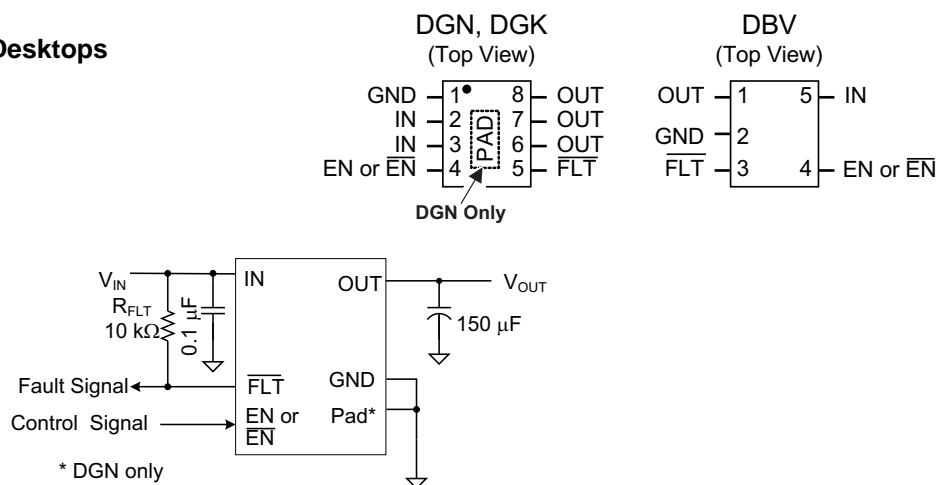

Figure 1. Typical Application
(1) Absolute maximum ratings apply over recommended junction temperature range.
(2) Voltages are with respect to GND unless otherwise noted.
(3) See the Input and Output Capacitance section.
(4) V_{OUT} was surged on a pcb with input and output bypassing per Figure 1 (except input capacitor was 22 µF) with no device failures.